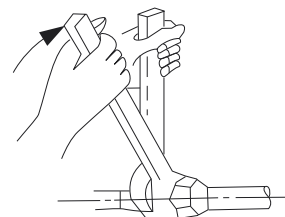

Fig. 72 - Tighten Flare Nut
8. Tighten flare nut and finish installation using two wrenches as shown in Fig. 72.
10. Connect refrigerant piping and drain line outside of indoor unit. Refer to *Piping Connections to Outdoor Unit* section and Fig. 72 for proper installation of flare connections. Complete pipe insulation at flare connection then fasten piping and wiring to the wall as required. Completely seal the hole in the wall.